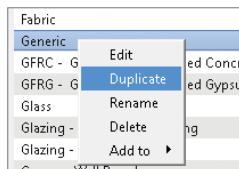

FIGURE 9.3 Duplicating the generic wall material
3. You'll duplicate a material and then modify it. Duplicating is a safe way to edit a material without affecting all model elements that use the original material. From the Project Materials list, the material named Generic should be highlighted blue. Right-click it and select Duplicate, as shown in Figure 9.3. Find the duplicated material in the list named Generic (1), right-click it, and select Rename. Change the name of the material to Brick.